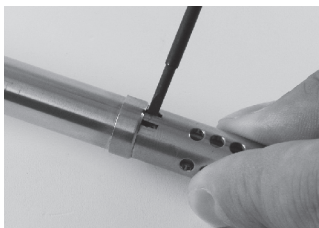

Fig. 26 Loosen the lock of the filter cap
- Loosen the lock of the filter cap with an appropriate tool (see Fig. 26 *Loosen the lock of the filter cap*).